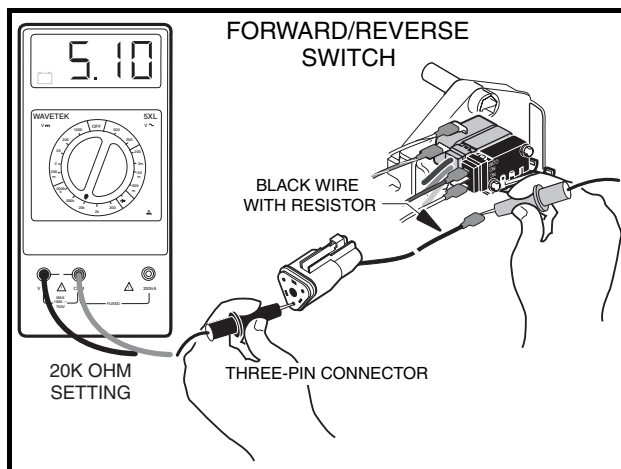

Figure 11-29 Half-Speed Reverse Resistor Test
2. Disconnect black wire from half-speed reverse limit switch located on Forward/Reverse switch (**Figure 11-29, Page 11-28**).
- 3.2. With multimeter set to 20k ohms, measure resistance through 18-gauge black wire from Forward/Reverse wire harness (at disconnect from three-pin connector) to end disconnected from half-speed reverse limit switch. Resistance should measure approximately 5100 ohms ($\pm 10\%$) (**Figure 11-29, Page 11-28**).